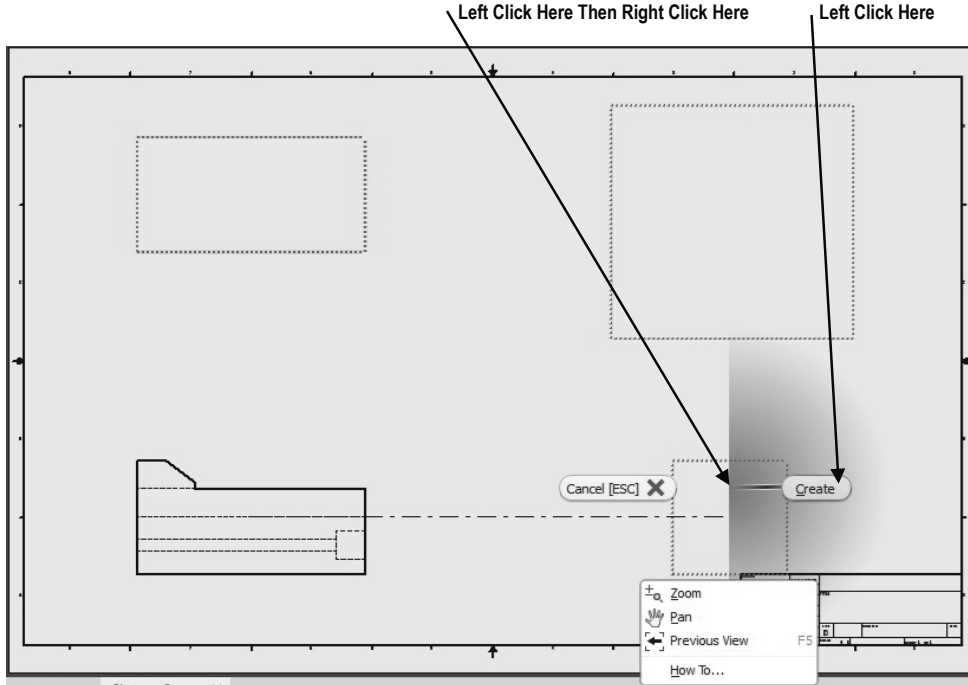

Figure 22
27. Left click to place the Side view. Then, right click on the side view. A pop-up menu will appear. Left click on **Create** as shown in Figure 22.